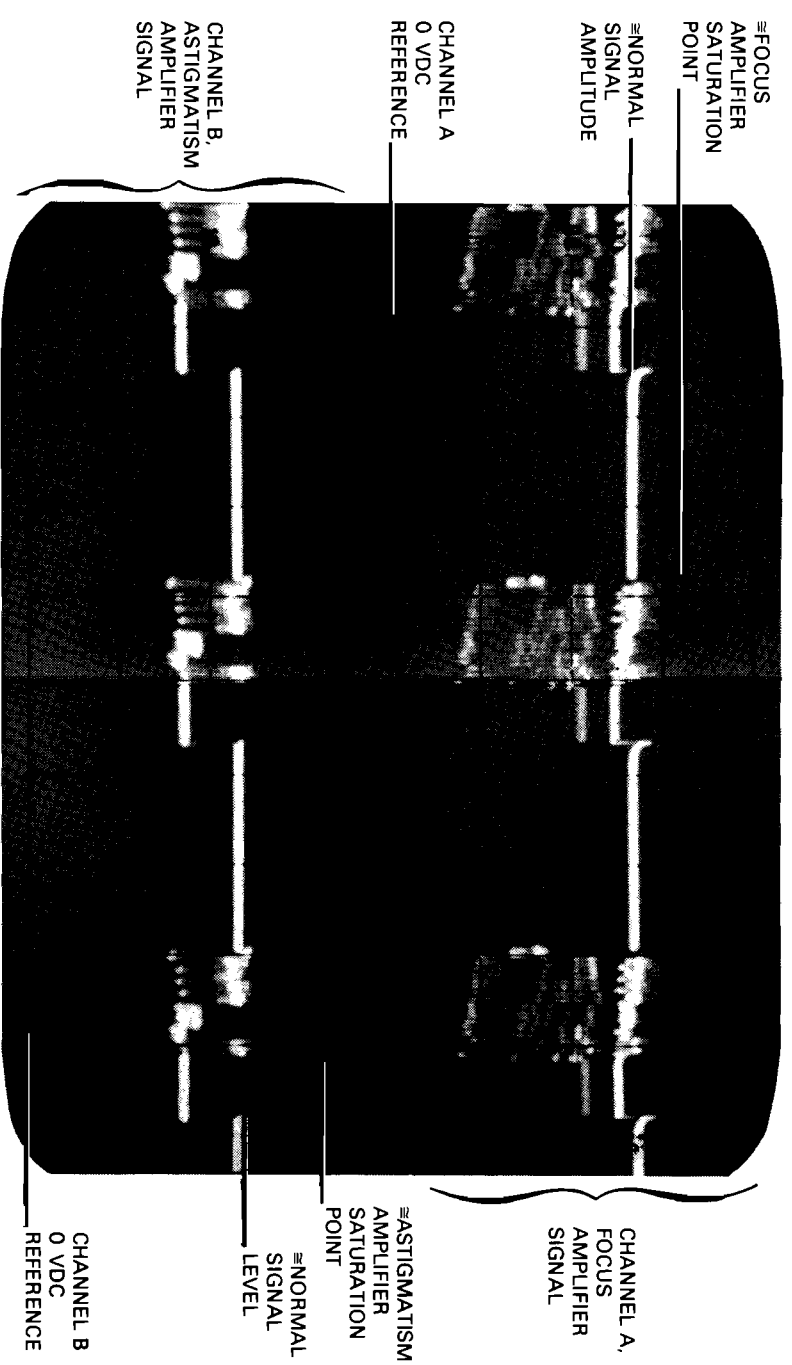

Figure 5-15. Focus and Astigmatism Output Waveforms
- j. Set oscilloscope controls as follows and obtain the display as shown in figure 5-15: